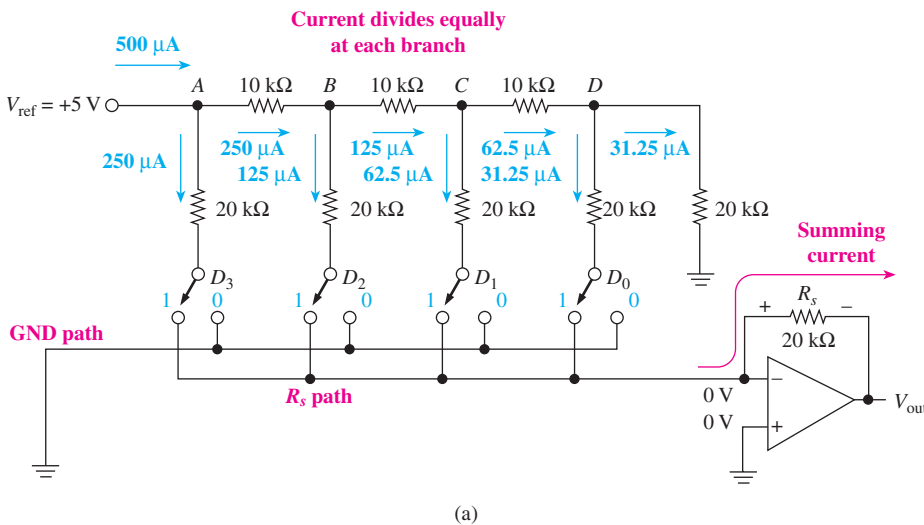

Figure 6 $R/2R$ ladder D/A converter: (a) Current division;
This circuit, which is designed in the shape of a ladder, is an ingenious way to form a binary-weighted current-division circuit. Refer to Figure 6(a) to see how we arrive at the current levels and value of V_{out} . First, keep in mind the op-amp rules presented in Section 2. In particular, remember that the $(-)$ input to the op amp is at virtual ground, and any current that reaches this point will continue to flow past it, up through the summing resistor (R_s). With this knowledge, we can determine that the resistance of, and the current through, each rung of the ladder is unaffected by the position of any of the data switches (D_3 to D_0). This is because (1) with a data switch in the 0 position, the bottom of the corresponding $20\text{-k}\Omega$ resistor is connected to ground and (2) when it is in the 1 position, it is connected to virtual ground, which acts the same as ground.
To calculate the current contributed by each rung in Figure 6(a), we must first calculate the total current leaving V_{ref} . By collapsing the circuit from the right, we have $20\text{ k}\Omega$ in parallel with $20\text{ k}\Omega$, which gives $10\text{ k}\Omega$. This $10\text{ k}\Omega$ is in series with the $10\text{-k}\Omega$ resistor between C and D, making $20\text{ k}\Omega$. This $20\text{ k}\Omega$ is now in parallel with the $20\text{-k}\Omega$ resistor above D_1 . This procedure is repeated over and over until we arrive at the total resistance seen by V_{ref} being equal to $10\text{ k}\Omega$. Therefore, the total current leaving V_{ref} is 5 V divided by $10\text{ k}\Omega$, which equals $500\text{ }\mu\text{A}$.